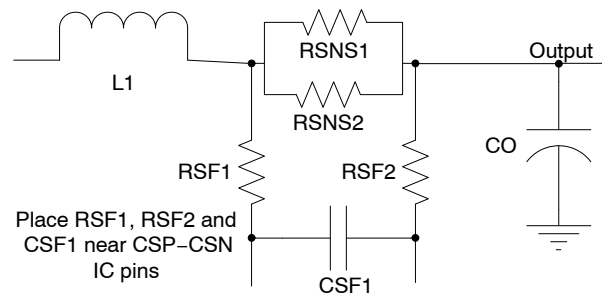

Figure 23. Current Sense Resistor π -Filter
- An optional R–C–R π -filter on the IC's CSP/CSN pins (Figure 23) is sometimes used to filter differential and common mode noise.